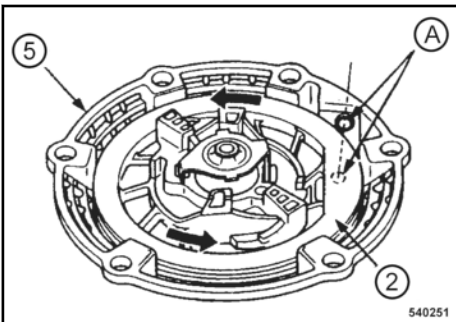

Fig. 74
Before assembling the rope, turn the coil (2) ↳ Fig. 74 5 revolutions in anti-clockwise direction and align the rope openings in coil and housing (5) to one another (A).